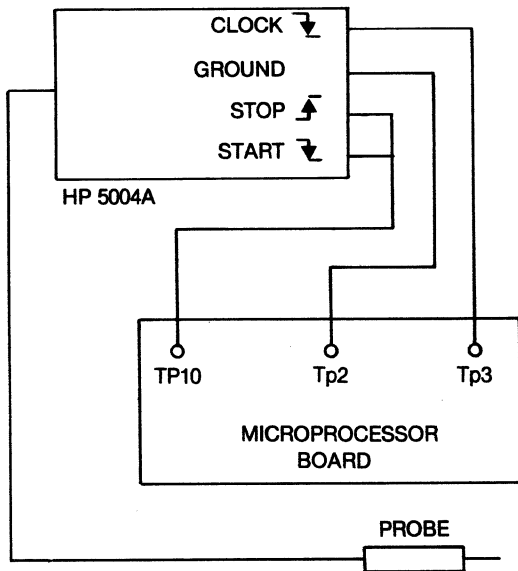

Figure 5-3. Signature Analyzer Connection
When microprocessor problems are suspected always check the +5V supply, refer to paragraph 5.2. If the voltage is correct use table 5-3 to troubleshoot the microprocessor board. A Hewlett-Packard 5004A Signature Analyzer may be used to verify "signature" for the microprocessor board, figure 5-3 shows the
3.	Connect analyzer as shown in figure 5-3.